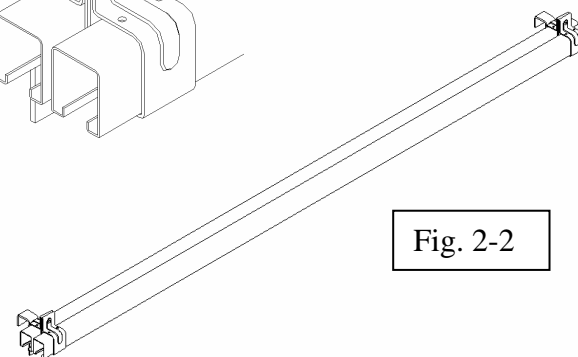

Fig. 2-2
- Insert the second Slide Bracket over the already assembled Slide Track. See Figure 2-2 for reference.